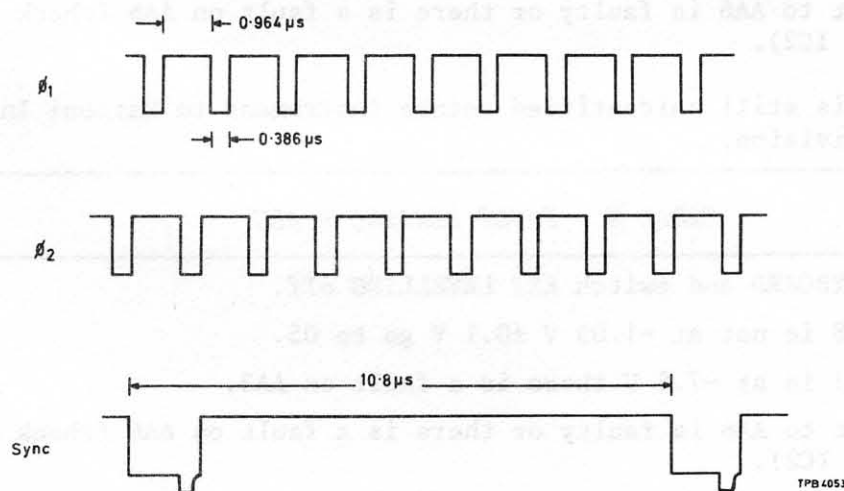

Fig. 5 Microprocessor timing
02. Check AB2, 31 for SYNC waveform (see Fig. 5). If not, IC2 is probably faulty.